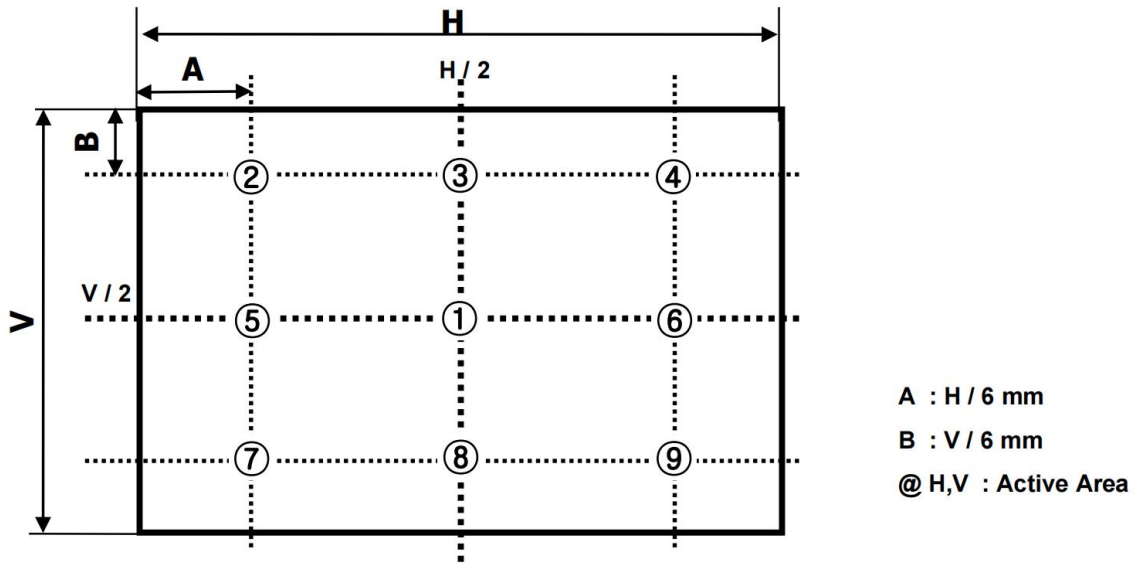

FIG.3 5Points for Contrast Ratio Measure
4. Response time is the time required for the display to transit from any gray to white (Rise Time, TrR) and from any gray to black (Decay time, TrD). For additional information see the FIG. 3.